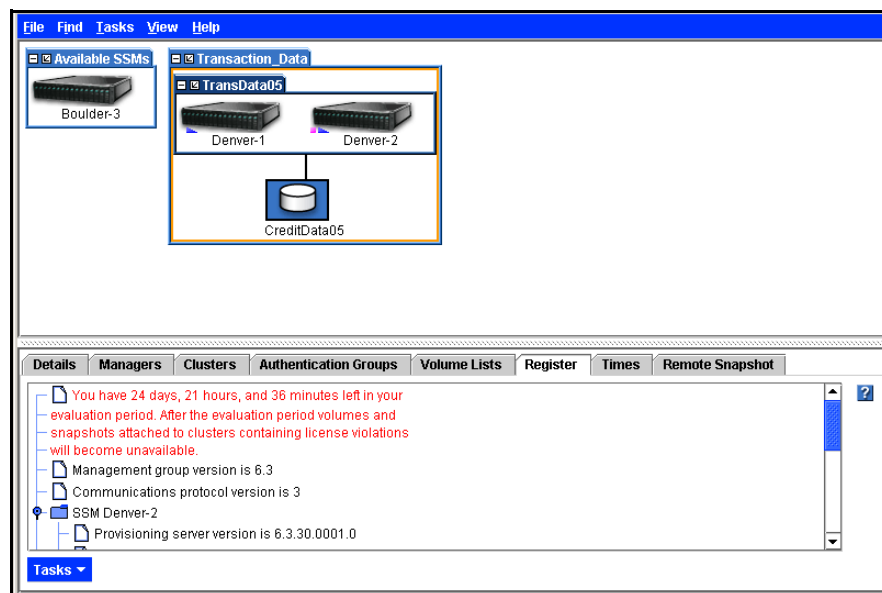

Figure 214. Registering Features and Applications
2. Select the Register tab, shown in Figure 214. The Register tab lists licenses that have been purchased. If you are evaluating features, the time remaining in the evaluation period is listed on the tab as well.